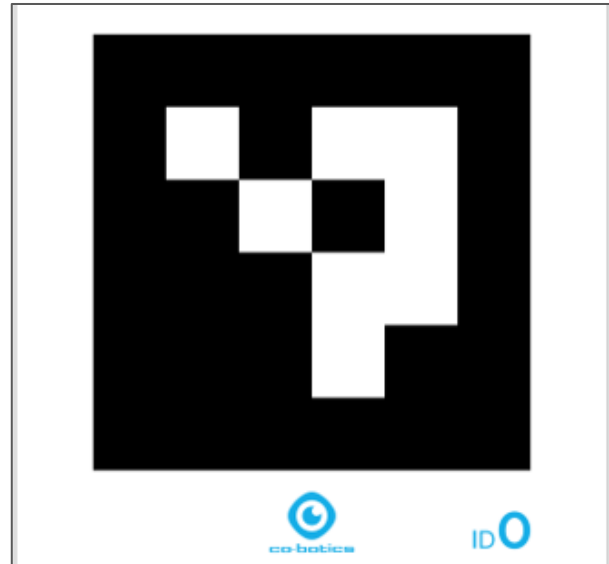

Figure 33
7. The CO-BOTIC 65 must be placed at a distance between 1 and 2.5 meters in front of the location marker (Figure 33).